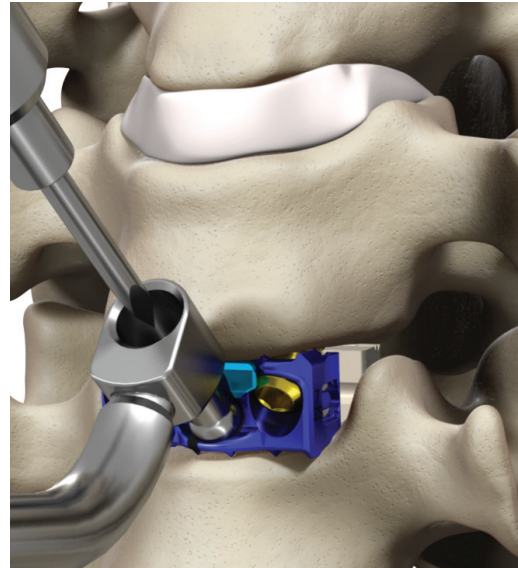

Figure 31
- Prepare the midline screw hole using the fixed or variable drill guide. The appropriate angle ranges for the midline screws are 35° to 45° cephalad/caudal and 0° to 10° medial/lateral (Figure 31).